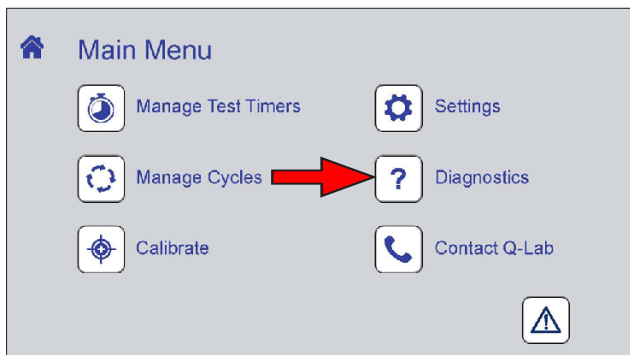
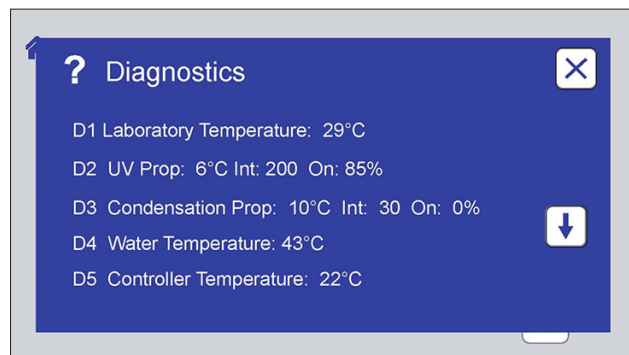

Figure 9.8a: Touch the Diagnostics icon on the Main Menu screen to display diagnostic information.
Figure 9.8b: The Diagnostics screen displays current machine operating conditions.
- Diagnostics are a list of tester current operating conditions (Figure 9.8b).
- On the Main Menu screen, touch the Diagnostics icon (Figure 9.8a) to display the Diagnostics screen (Figure 9.8b).